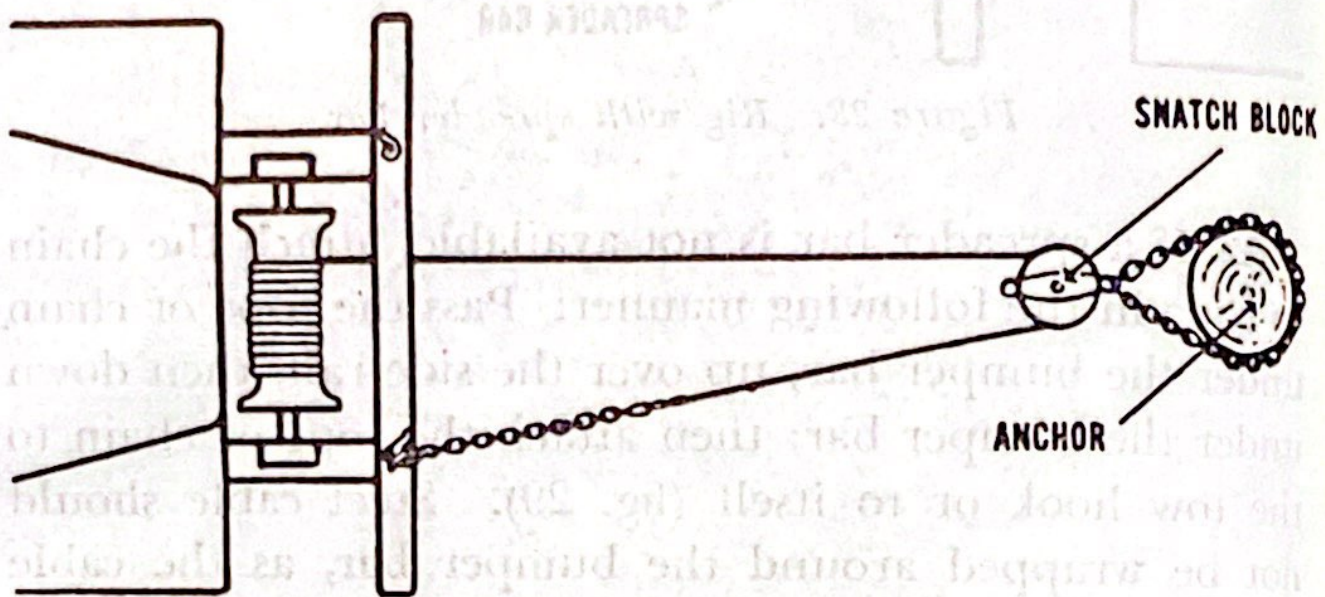

Figure 30. Rig without spreader bar.
(3) If neither of the above methods can be followed, the winch cable hook should be attached to one of the tow hooks as shown in figure 30. Tow the vehicle carefully, especially on slippery terrain, when using this method or when the chain or rope is wrapped around the bumper bar, keeping in mind the "slewing" (one sided) tendency caused by the off-center pull.